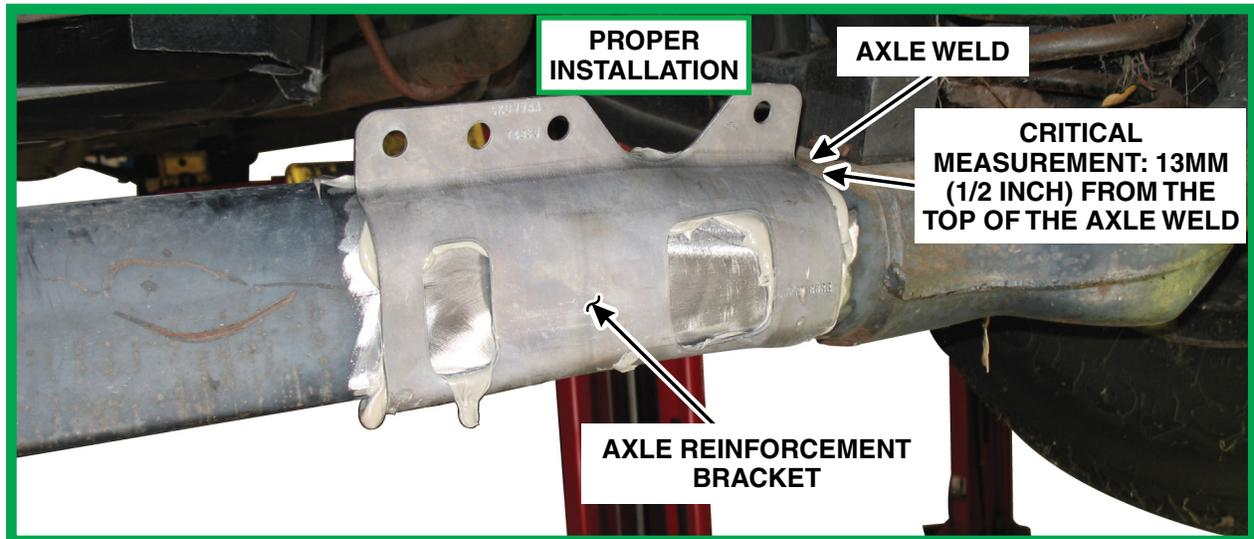

FIGURE 8
Place the first axle reinforcement bracket onto the axle and align 13 mm (1/2 in) from the top of the axle weld. After the axle reinforcement bracket has been positioned, do not pull the axle reinforcement bracket away from the axle. See Figure 8.
**IMPORTANT:** Ensure the axle reinforcement bracket is positioned 13 mm (1/2 in) from the axle weld. See Figure 8.